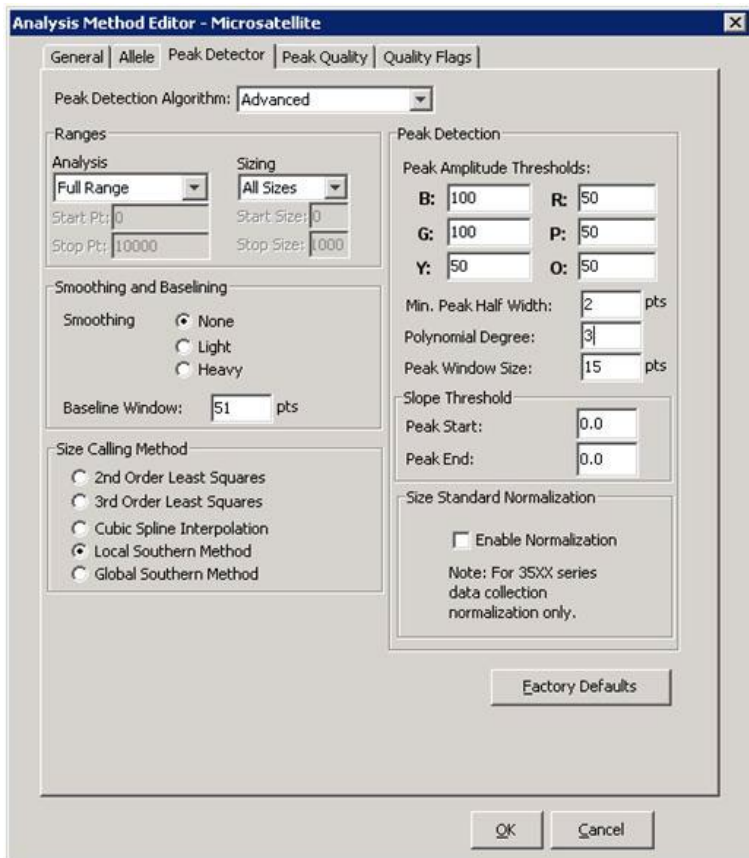

Figure 3. Analysis method settings for ITD. For TKD, settings are identical except that *Polynomial Degree* is set to 5.
11.18.5. Ensure that the analysis method settings are set properly. Refer to Figure 3.
NOTE: ITD and TKD specific Analysis Methods may be setup and used in GeneMapper by going to *Tools* and selecting the **GeneMapper Manager**. From the *Analysis Methods* tab, click the **New...** button and select **Microsatellite** as the analysis type. Click **OK**. Provide a *Name*, *Description*, and *Instrument* in the *General* tab, set up the *Peak Detector* tab as described above and in Figure 3, and leave the *Allele*, *Peak Quality* and *Quality Flags* tabs set to default *Microsatellite* settings. Select **Done** and the new Analysis Method is selectable.